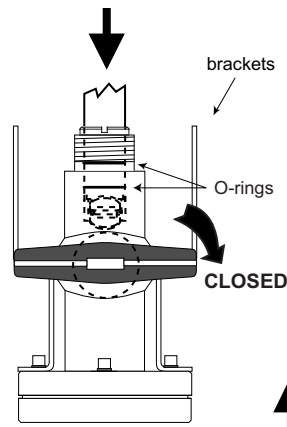

Figure 1
2. Carefully insert the sensor into the FP-319 valve assembly until the first two O-rings seat inside the bore. (Figure 1)
3. Close the ball valve. (Figure 1)